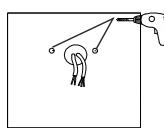

figure 8
- Step 1: Drill holes on the wall as shown. (Figure 8)